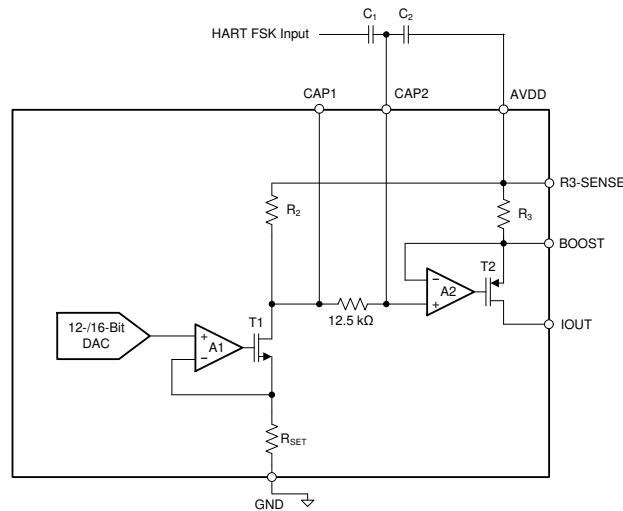

Figure 9-1. Implementing HART on IOUT Using the CAP2 Pin
The first method to implement HART is to couple the signal through the CAP2 pin, as shown in Figure 9-1.
In Figure 9-1, R_3 is nominally 40 Ω , and R_2 depends on the current output range (set by the RANGE bits), described as follows:
When the input HART frequency is greater than the 3-dB frequency, the ac signal is seen at the plus input of amplifier A2, and is therefore seen across the 40- Ω resistor. To generate a 1-mA signal on the output therefore requires a 40-mV peak-to-peak signal on CAP2. Most HART modems do not output a 40-mV signal; therefore, a capacitive divider is used in Figure 9-1 to attenuate the FSK signal from the modem. In Figure 9-1, the high-pass cutoff frequency is $1 / (2 \times \pi \times [R_2 + 12.5 \text{ k}\Omega] \times [C_1 + C_2])$. There is one disadvantage to this approach: if the AVDD supply is not clean, any ripple on the supply could couple into the device.
- As illustrated in 図 9-1, CAP2 is directly connected to the input of the final IOUT amplifier. Any noise or unwanted ac signal routed near the CAP1 and CAP2 pins could capacitively couple onto internal nodes and affect IOUT. Therefore, make sure to avoid routing any digital or HART signal traces over the CAP1 and CAP2 traces.